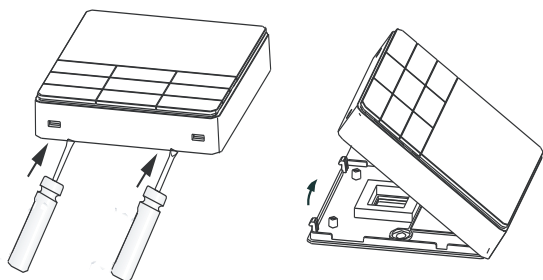

**Fig. 1 — Signal Receiving Panel Connection**
4. Connect one end of the shielded 5-core control cable to the indoor unit display panel on the unit. See Fig. 1.